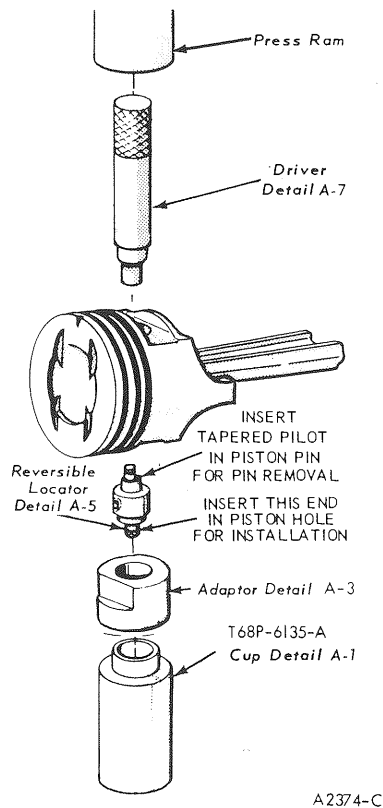

FIG. 75 Removing or Installing Piston Pin
3. Using an Arbor press and the tool shown in Figure 75, press the piston pin from the piston and connecting rod. Remove the piston rings.